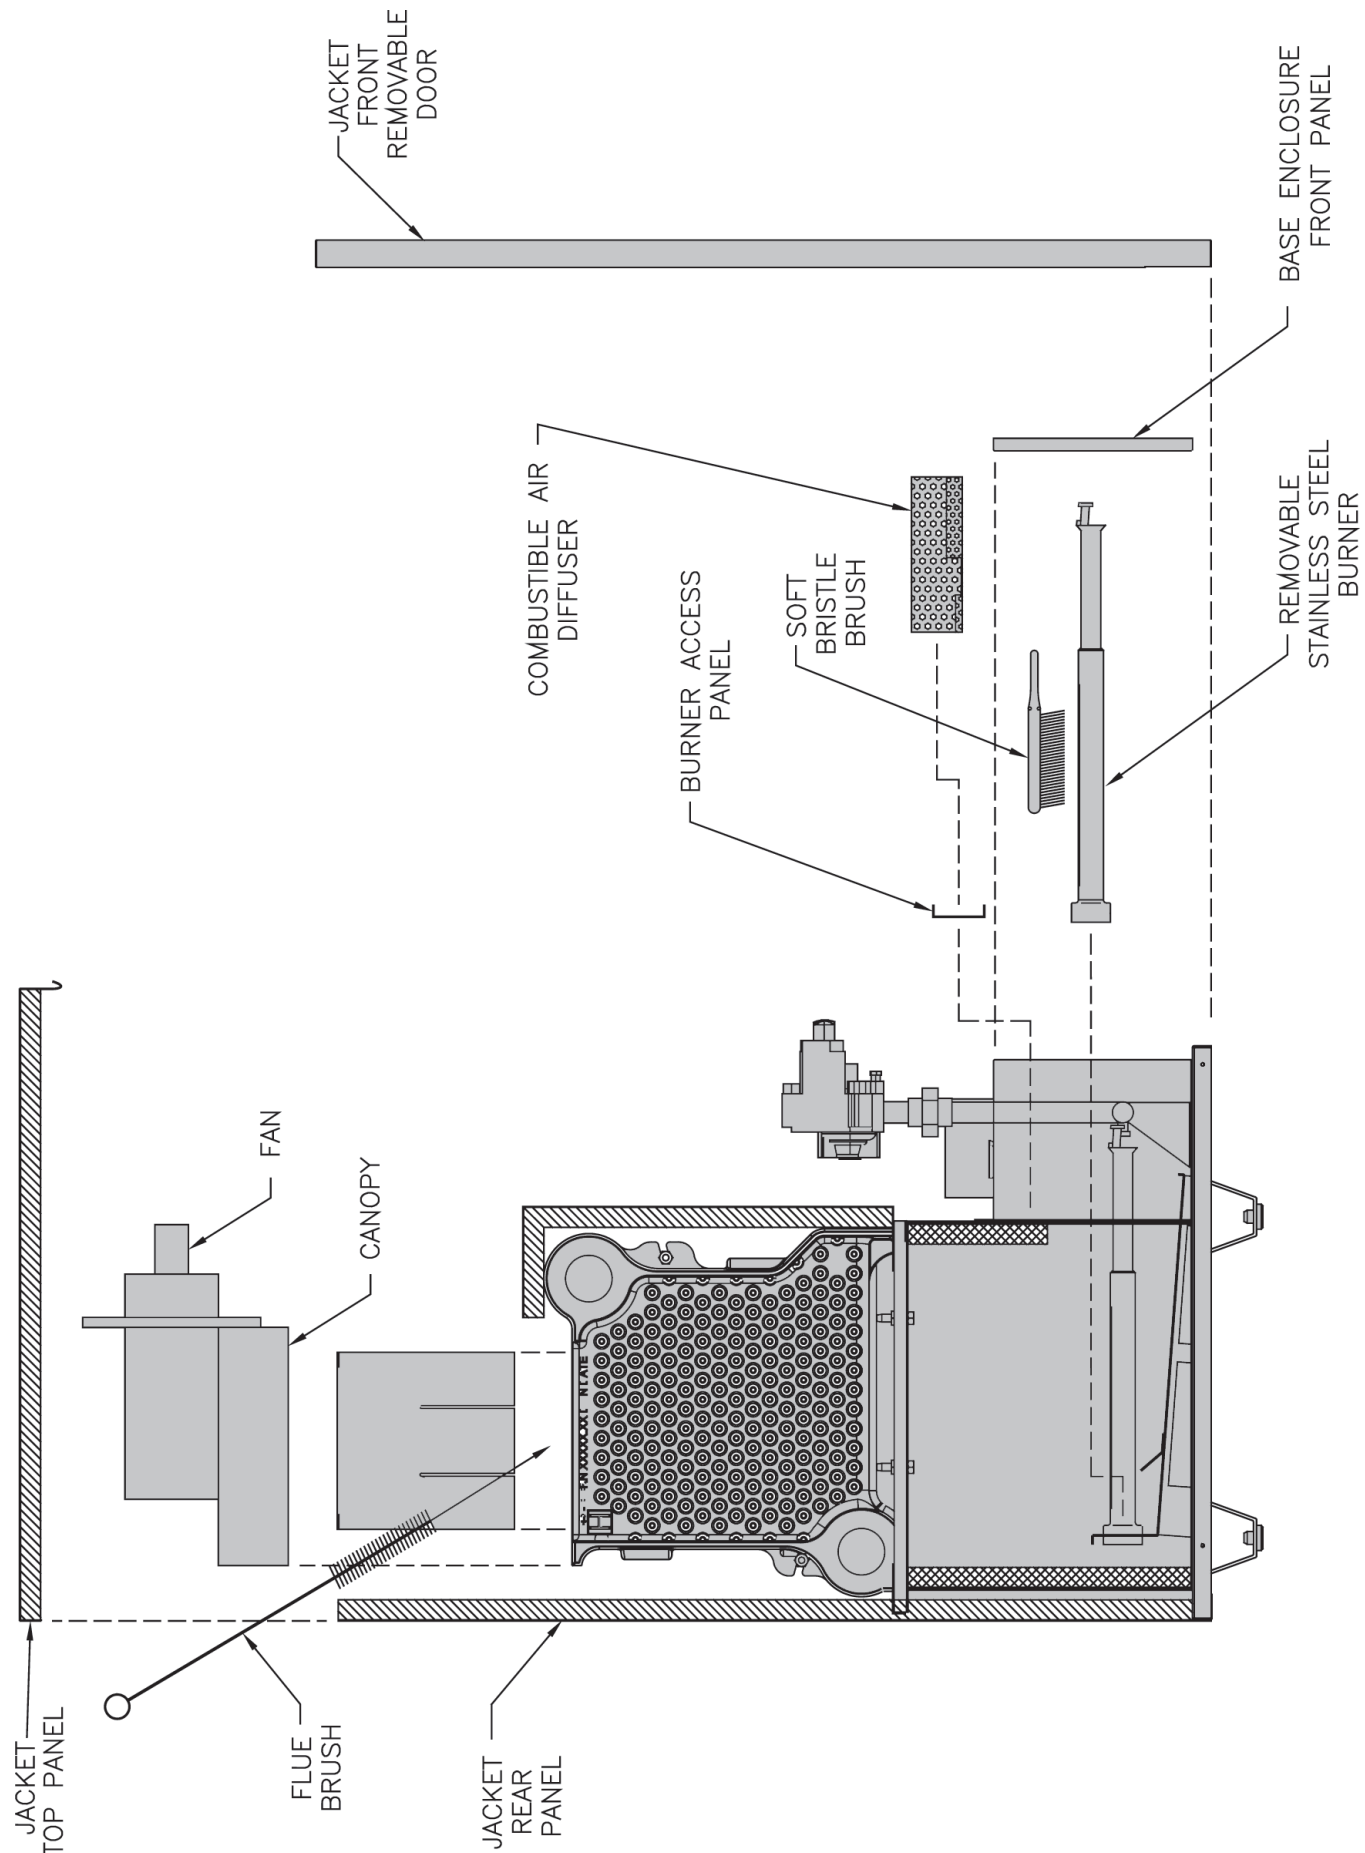

Figure 44: Flue and Burner Cleanout, 1" Burner
1. Remove Main Burners. See Figure 44.
- a. Loosen the (4) screws from Canopy.
8. Inspect flue passages. Clean with flue brush. See Figure 44.
2. Clean main burners. Brush top of burners with soft bristle brush. See Figure 44. Vacuum to remove any dirt and lint.
- b. Main burners must be properly secured in burner tray slot at rear of firebox and over gas orifice. See Figure 44.